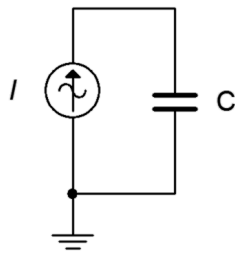

Figure 2.9
14. Draw the voltage and current waveforms for the circuit of Figure 2.9 if I is a 10 micro-amp peak sine at a frequency of 2 kHz and $C = 6.8$ nF.